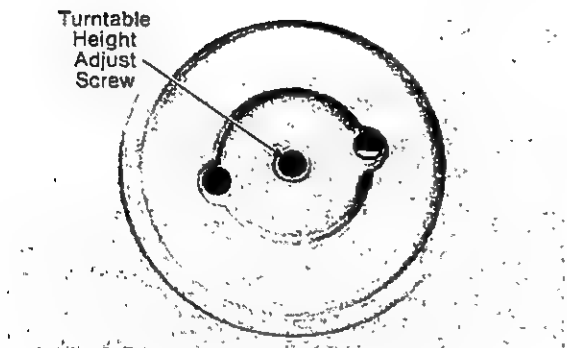

Fig. 3-9. Turntable Height Adjust Screw
When replacing pickup arm assembly, be certain pickup arm is in it's outermost position and the radius sensor assembly is almost in the full counterclockwise position. Figs. 3-9 & 2-11.
1. If gauge remains on lowest step — Remove yoke assembly and spindle, raise turntable height by adjusting turntable height adjust screw clockwise (item 2 Fig. 3-9). Replace spindle and yoke assembly.